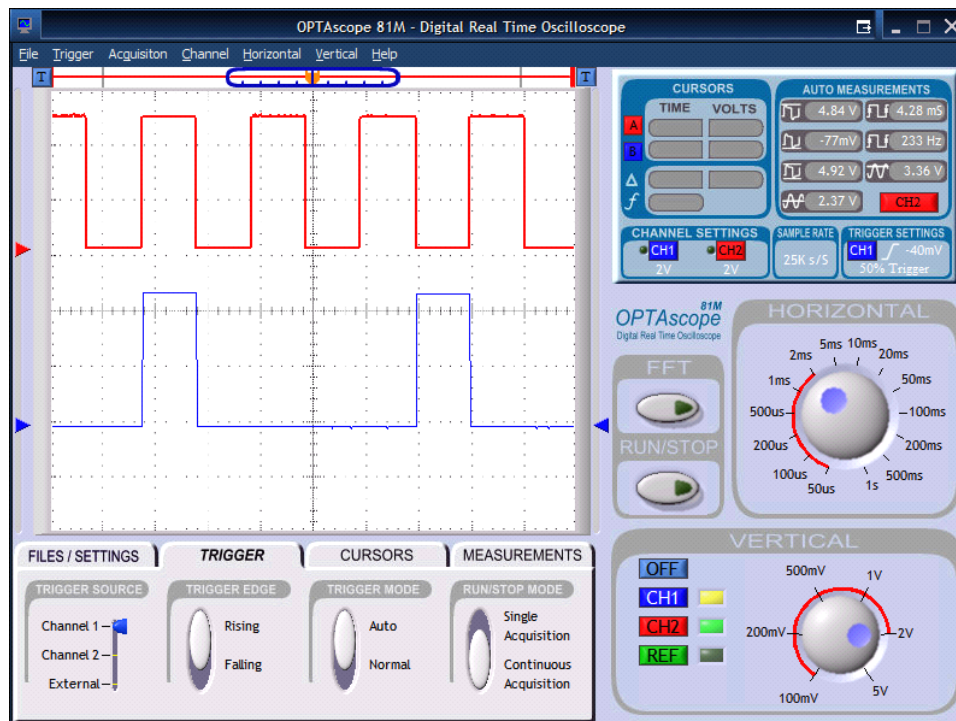

Figure 14-2: Two PWM Output Signals
- Figure 14-2 is a view of two PWM outputs. What is the duty cycle of each expressed as a percentage? If the PWM generator uses 8 bits to express the duty cycle, what number is used to create each output?